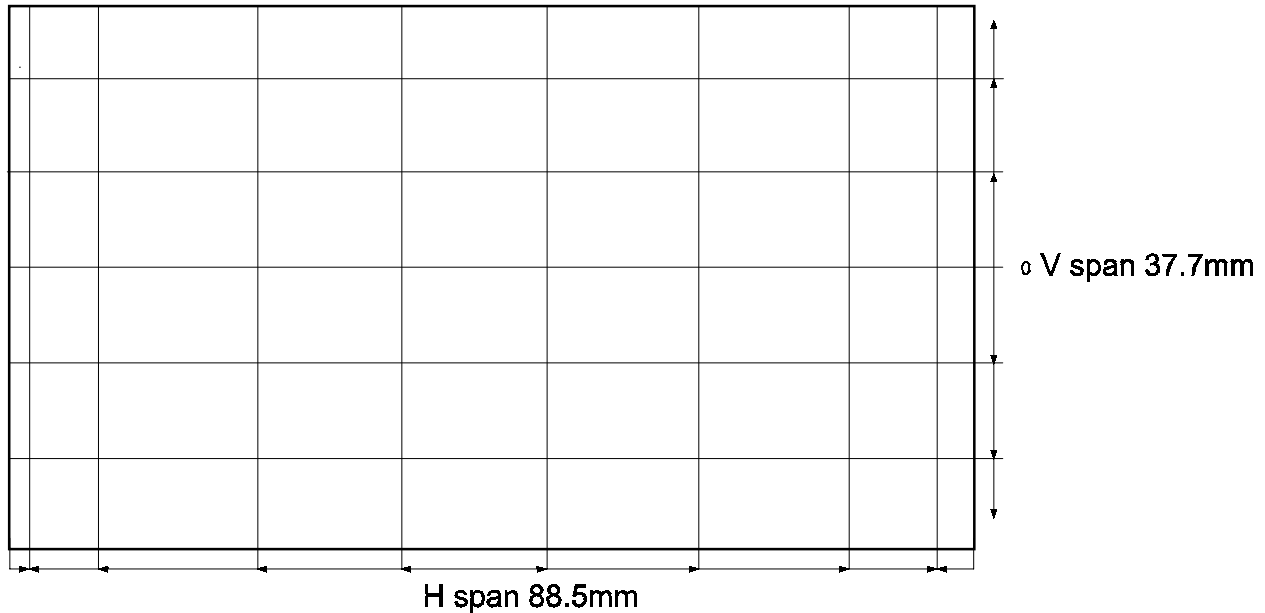

Figure 1
**Readme:** The overlay dimensions are contained in the appropriate unit Service Manual, as shown in Figure 1. If a particular overlay kit is not available, or there is an urgent need for a complete convergence alignment before the kit can be delivered, strings and low-tack tape can be used to achieve the desired results.